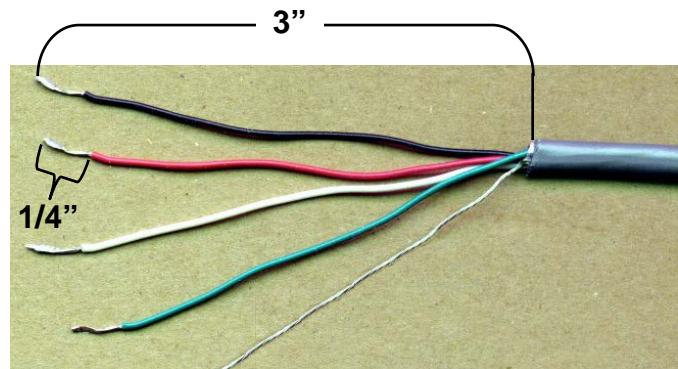

Figure No. 18
4. Referring to Figure No. 18, remove 3 inches of the outer insulation jacket of the cable.